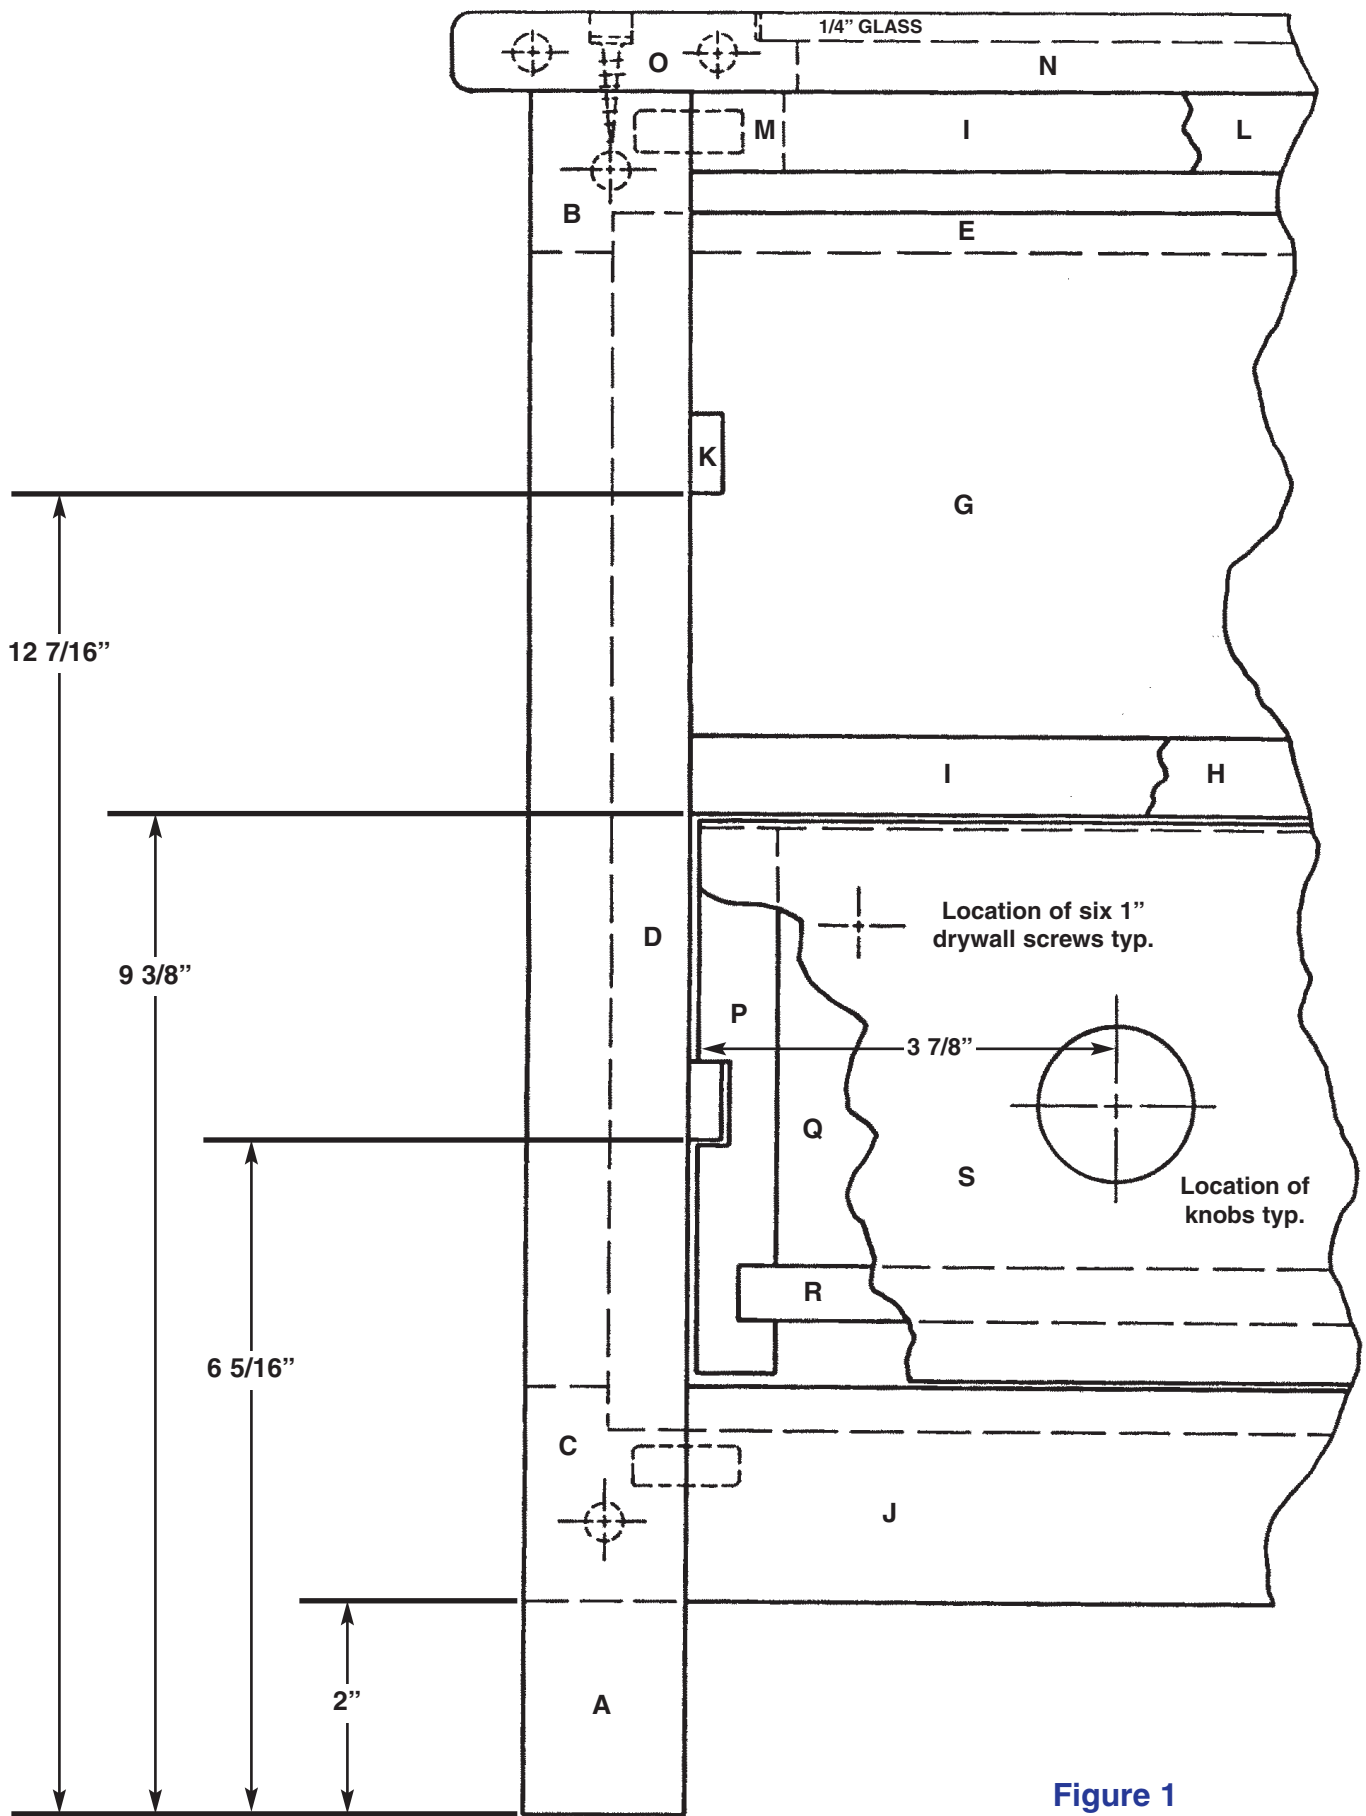
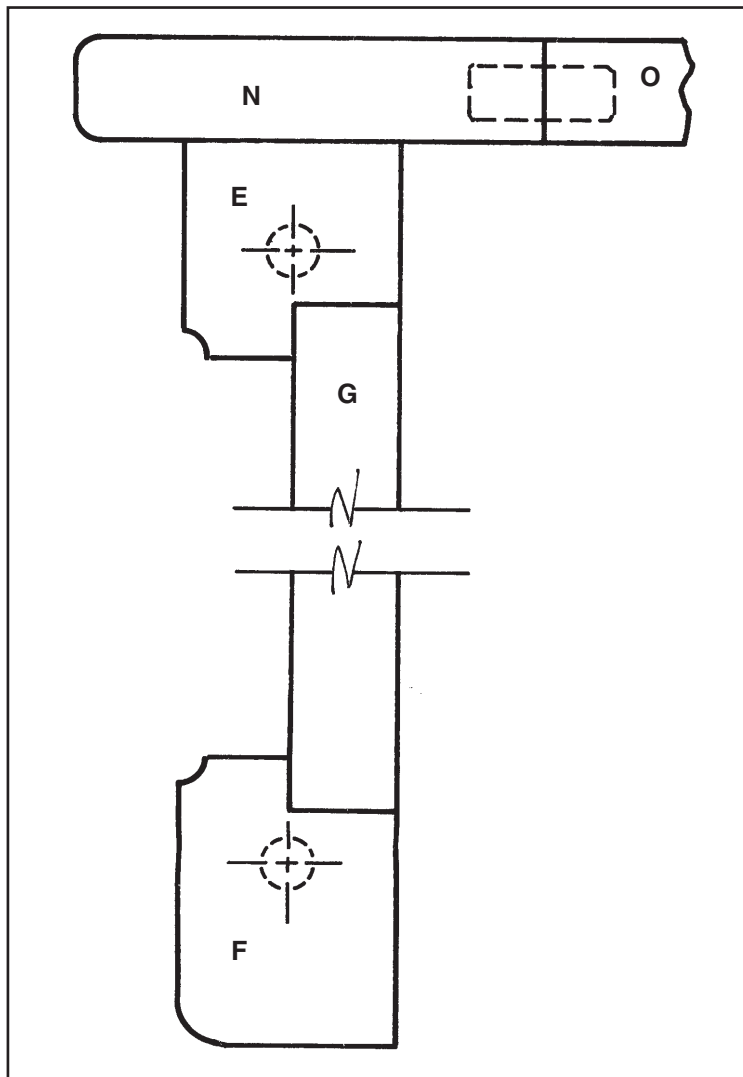

Figure 1
Figure 2
1. Attach boards (A) to boards (B) and (C) using glue and dowels. Refer to Isometric and Figure 1.
2. Rout a $3/8"$ by $3/4"$ deep rabbet around inside edges of side subassemblies (A, B, C). Radius the corners of boards (D) and glue in place. Refer to Isometric and Figure 1.
3. Rout a $3/8"$ by $3/4"$ deep rabbet on one edge of boards (E) and (F). Glue (E) and (F) to board (G). Refer to Figure 2.
4. Attach subassembly (E, F, G) and upper board (I) and board (J) to sides (A, B, C, D) using glue and dowels. Refer to Isometric and Figures 1 and 2. Note: Do not install lower board (I) at this time (see Step 5).
5. Glue board (I) to board (H). Use 1 1/4" finish nails and glue to attach subassembly (H, I) to boards (D) and (G). Refer to Figure 1 for location.
6. Rout an optional decorative 1/4" cove around inside edges of boards (A), (B), (C), (E) and (F). Stop the cove 1" from the ends of each board. Refer to Isometric and Figure 2.
7. Rout a 1/4" radius on outside corners of boards (A). Refer to Isometric.
8. Attach drawer rails (K) to boards (D) using 1" finish nails and glue. Refer to Isometric and Figure 1.
9. Glue board (L) to board (E) and boards (M) to boards (B). Refer to Isometric and Figure 1.
10. Attach boards (N) to boards (O) using glue and dowels. Refer to Isometric and Figure 1.
11. Rout a 1/4" radius around the outside edges of boards (N) and (O). Refer to Isometric and Figure 1.
12. Attach top frame (N, O) to the table base using glue and 1" drywall screws. Countersink and cover the screws with 3/8" plugs. Refer to Isometric and Figure 1.
13. Rout a 1/4" deep by 3/8" wide rabbet on the inside edges of top frame (N, O) to accommodate the glass. Refer to Isometric and Figure 1.
14. Rout a 3/8" deep by 13/16" wide dado down the center of one side of boards (P). Rout a 3/8" deep by 1/2" wide dado on the opposite side of boards (P) to accommodate drawer bottoms (R). Refer to Isometric and Figure 1.
15. Assemble boards (P) to boards (Q) using glue and 1 1/4" finish nails. Slide drawer bottoms (R) into the grooves on boards (P). Attach (R) to (Q) using 1 1/4" finish nails. Refer to Isometric and Figure 1.
16. Attach drawer fronts (S) to boards (Q) using six 1" drywall screws. Space the screws 1 1/2" from the ends of the drawers and 1" from the top and bottom edges. Countersink and cover the screws with 3/8" plugs. Refer to Isometric and Figure 1.
17. Attach knobs to drawer fronts (S). Refer to Figure 1.